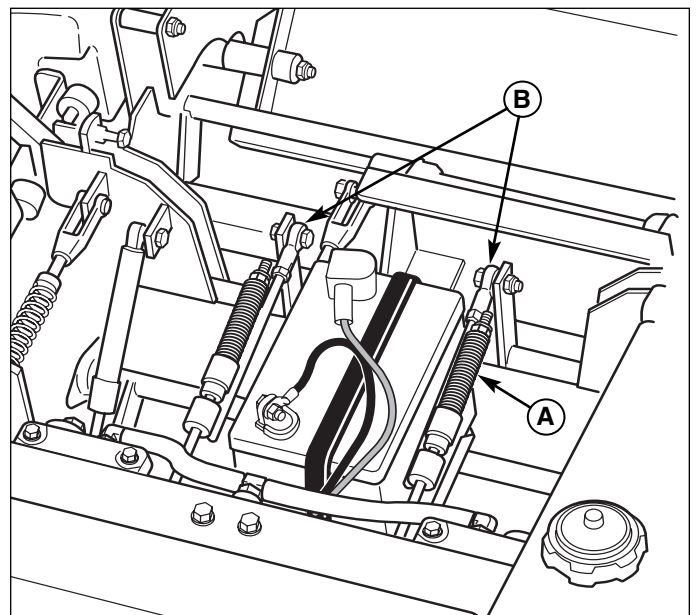

Figure 14. Neutral Adjustment
3. Check the control rod spring (A, Figure 14) length. The compressed spring length should be 2-3/16" (5,56cm)
4. Disconnect the rod end (B) and loosen the jam nut. Turn the rod end one to two turns to lengthen or shorten the control rod, then retighten the jam nut, and reconnect the rod end.